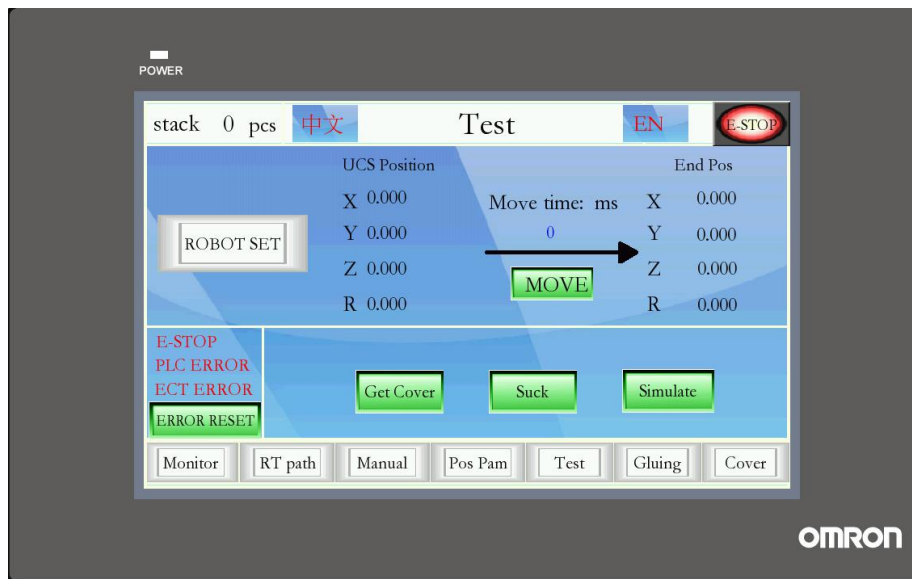

Figure 7
5. As show in figure 7, click on the **【Get cover】** button to check whether the paint effect meets the requirements, if not meet the requirements and then click the bottom of the **【 position parameter 】** button, return to Figure 5 for a second amendment until the requirements, click on the **【 monitor 】** button , enter to **【monitoring system】** .
6. After the coordinates of the " get cover position" and the coordinates of the "glue/spray start position" are remembered, click the **【Test button below to enter the system in Figure 7.**